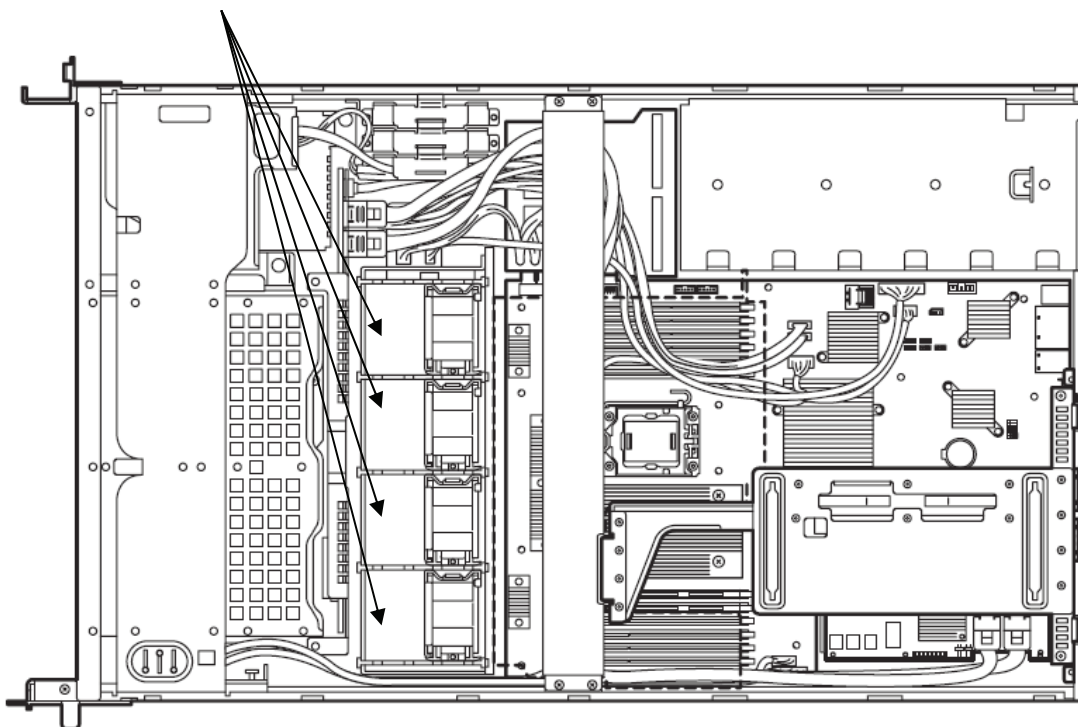

Fig. 1
- (3) Redundant FAN installation procedure
- b. A fan unit is raised and removed. (See Fig. 1)